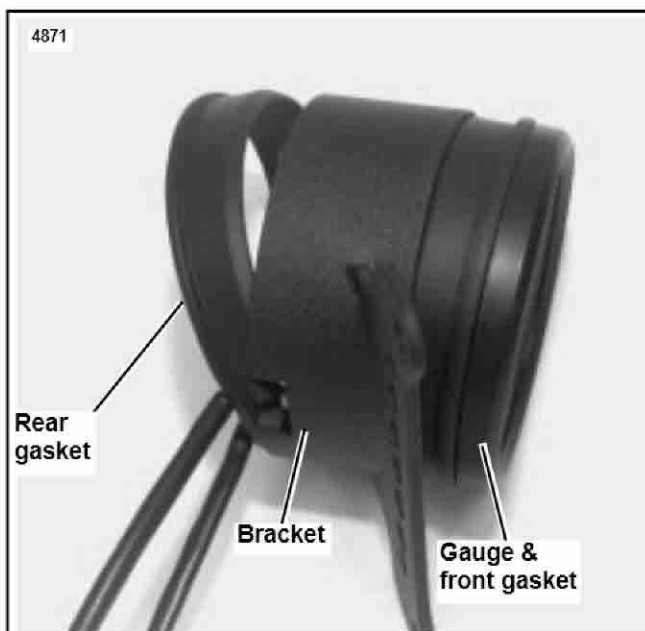

Figure 4. Speedometer Front and Rear Gaskets
- See Figure 4. Remove rear gauge gasket. Push on rear of gauge while simultaneously pulling gauge and front gasket from bracket.
4. See Figure 4. Position wire harness under gasket, to gauge.
7. If speedometer does not function, see Figure 4 or 6 and check that all wiring connections were correctly made.